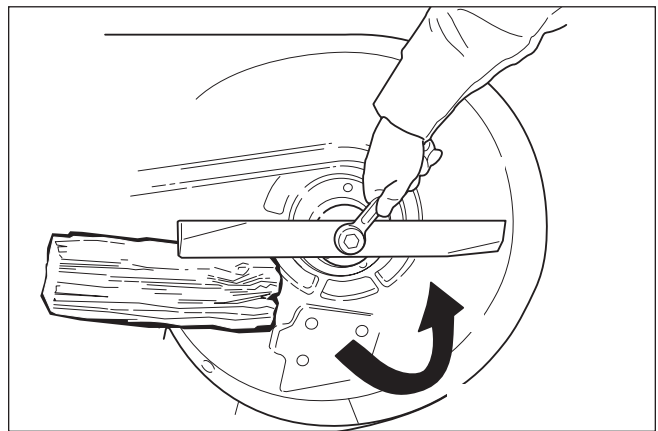

Figure 27. Loosening the Mower Blade for Removal
1. To remove the mower blade, use a 1" wrench on the flats of the spindle shaft and remove the mower blade mounting bolt with a 15/16" wrench (Figure 27).
- A.) Has more than .5" (12,7 mm) of the mower blade metal removed from previous sharpening or wear (D, Figure 27).